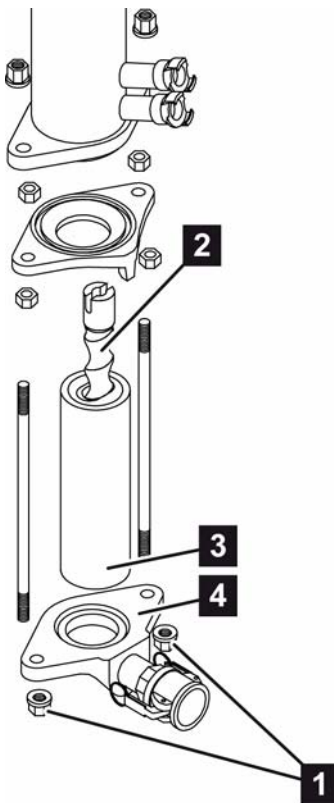

Fig. 62: Cleaning the pump
3. First lightly loosen the tension rod bolts (Fig. 62/1) then completely unscrew them from the tension rod.
4. Push the rotor (Fig. 62/2) out of the stator (Fig. 62/3) and clean it.
5. Clean the pressure flange (Fig. 62/4) or agitator (ROTOMIX or ROTOQUIRL).